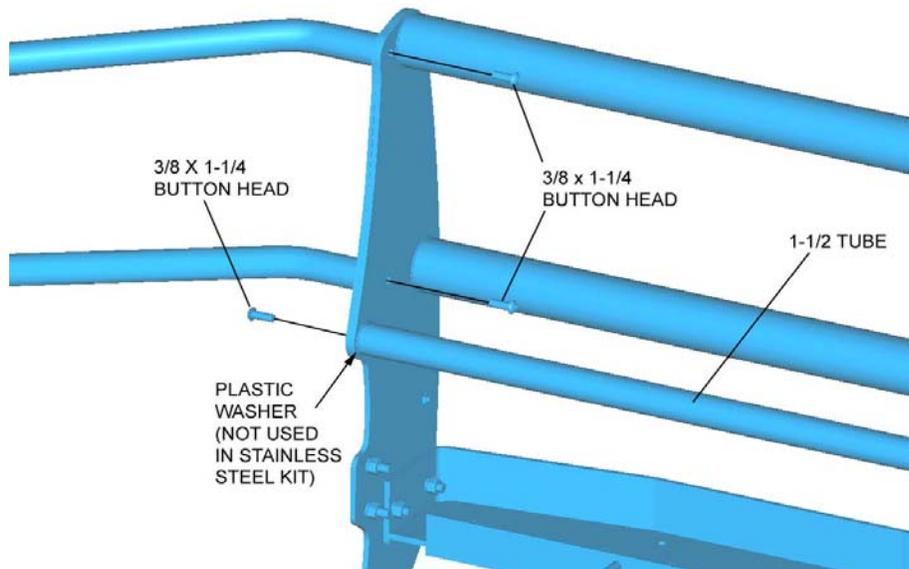

FIGURE 3 LH Brush Guard
3. Install the 1-1/2" tube between the Side Members. (Black Kit only: Insert a large plastic washer between each end of the tube and Side members.) Install a 3/8" x 1-1/4" screw. Do not tighten. See **Figure 3**.